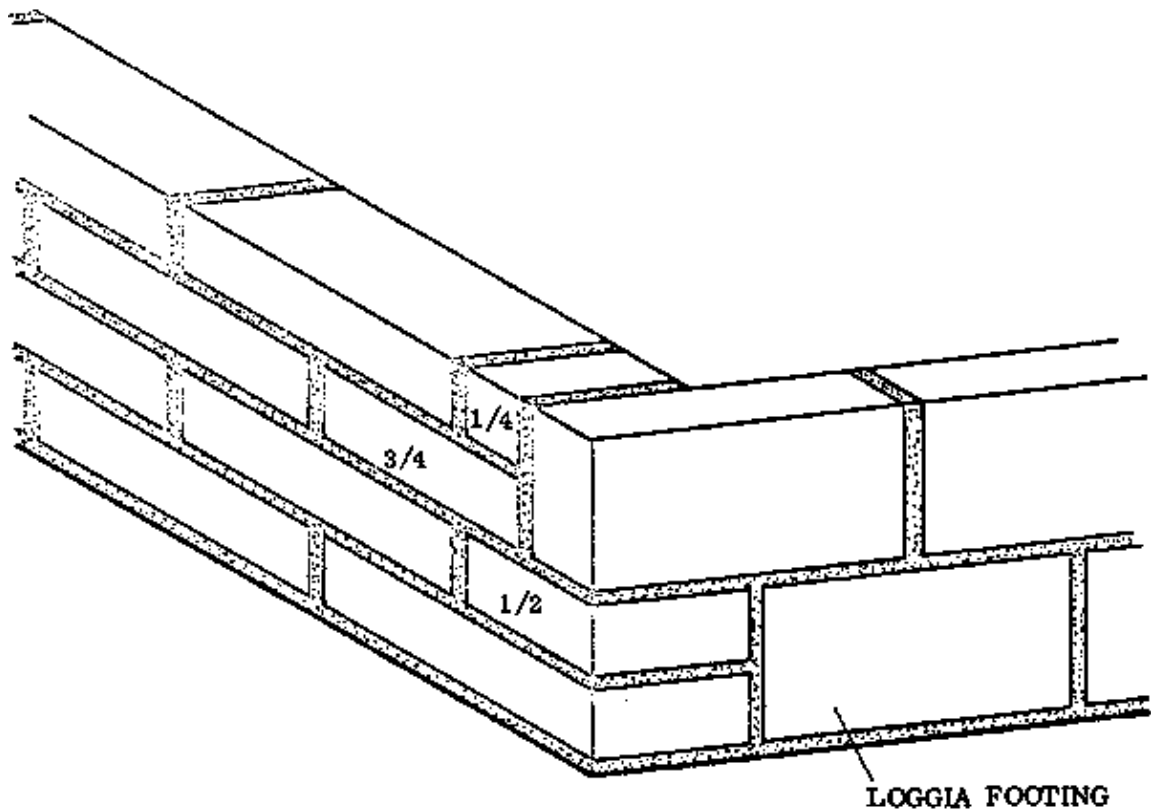

Fig. 3
– SPECIALLY MADE BLOCKS, FLUSH TO OUTSIDE: If specially made blocks are used, it is not necessary to cut them to odd shapes, and the bond is easy to make as well as more economical (Fig. 3).